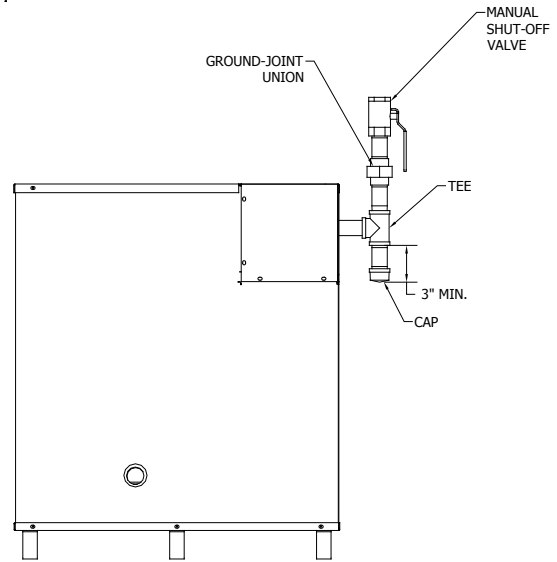

Figure 14: Recommended Gas Piping
3. Install sediment trap, ground-joint union and manual shut-off valve upstream of water heater gas control valve and outside jacket. See Figure 14.
2. Each water heater must be piped as shown in Figure 14.